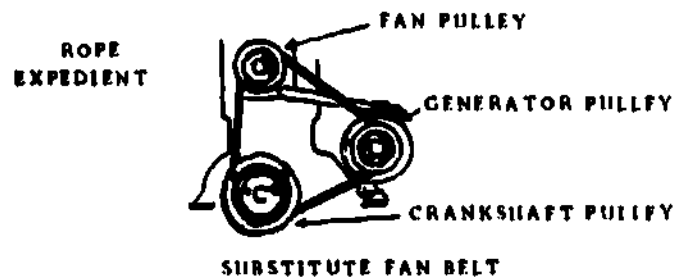

Fig 3-3. Substitute fan belt.
e. Substitute belt. If the belt cannot be repaired and no spare is on hand, make a substitute from a piece of rope, such as a fiber rope from the vehicle's tarpaulin or a piece of field telephone wire. Loop it around the pulleys three or four times and tie it with a square knot. Figure 3-3 illustrates how a substitute fan belt is installed around the fan, crankshaft, and generator pulleys.